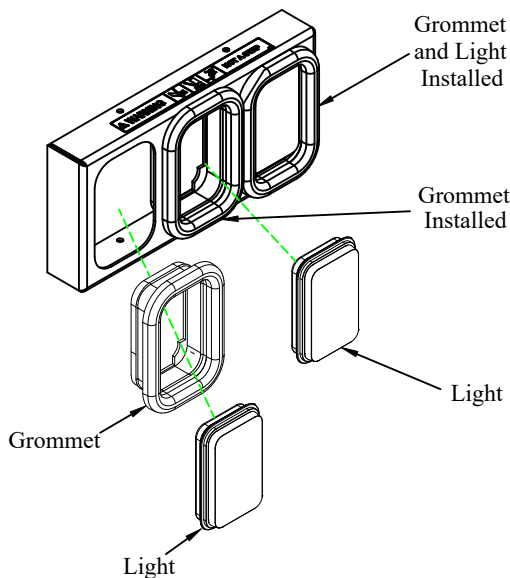

Figure 9: Light Kit Assembly
1. Press the light grommets into the large holes in the enclosures (Figure 9).
6. Firmly Push lights into installed rubber grommets until they are secured (Figure 9).